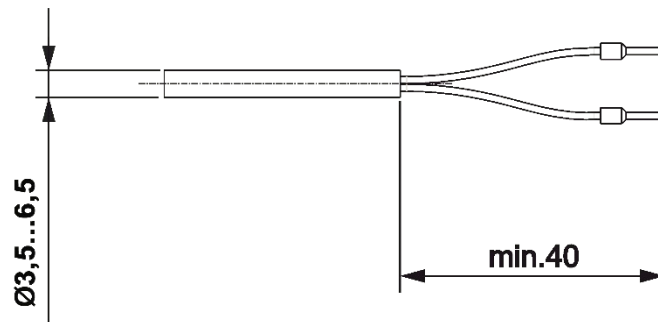

Fig. 6: Temperature sensor connection
- Strip both cables as shown in the figure 6.